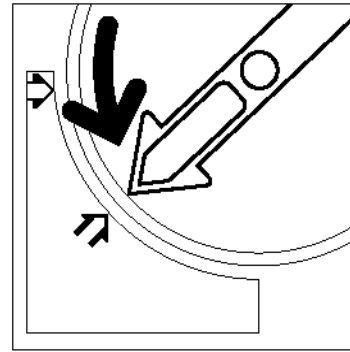

Figure 7: Rotating the Dry Ink Cartridge
- 3** Remove the empty cartridge by rotating it counterclockwise until the arrow on the cartridge is aligned with the open padlock on the copier/printer in the position illustrated in Figure 7.